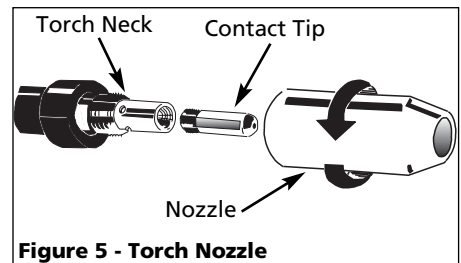

Figure 5 - Torch Nozzle
7. Remove torch nozzle by turning **counterclockwise**. Unscrew contact tip from end of welding torch (See Figure 5). Plug welder into proper power supply receptacle.
- Carefully slip contact tip over wire and screw it into torch neck. Install nozzle by turning **clockwise** (See Figure 5). Cut wire off approximately 1/4" from end of nozzle.